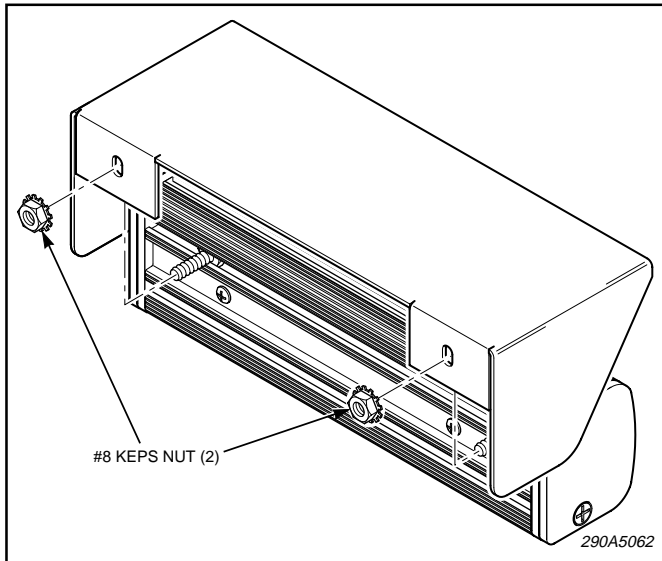

Figure 2.
4. See figure 2. Attach the sun visor to the light head using the KEPS nuts supplied with this kit.